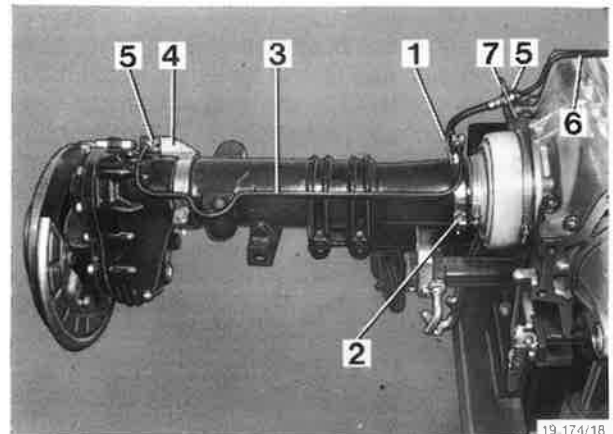

Fig. 23
- 28 Fit brake pipes acc. to fig. 23 and 4. Lead inner brake hose retainer (23/1 and 4/1) right to cylindrical neck of collar and to marking made during dismounting (with the aim that brake hose remains tension-free also in case of swinging out axle). Insert fastening screws from above. Tighten brake pipes with open-ring socket spanner size 11 special tool pos. no. 000 589 75 03 00 and torque spanner special tool pos. no. 001 589 75 21 00 to 15 Nm. Observe brake hoses not getting twisted.